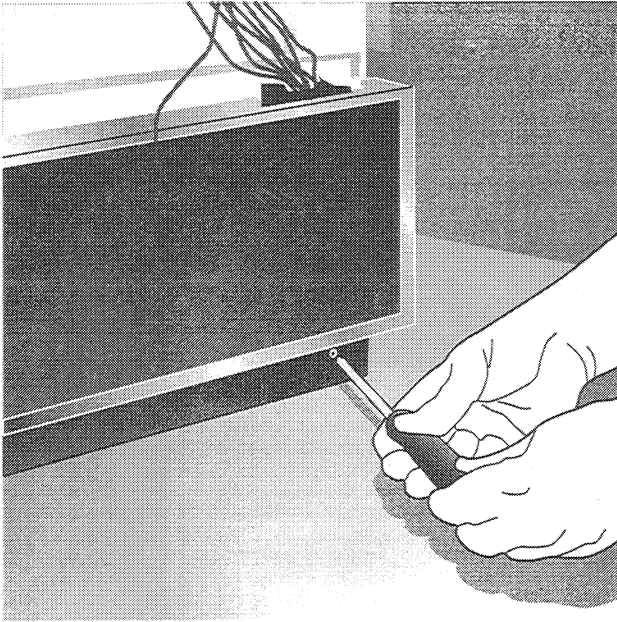

Figure 6
2. Remove screws securing bottom of service panel and insert. (See Figure 6.)
2. Remove service panel. (Refer to Figures 6 and 7.)
3. Remove service panel. (Refer to Figures 6 and 7.)
2. Remove service panel. (See Figures 6 and 7.)